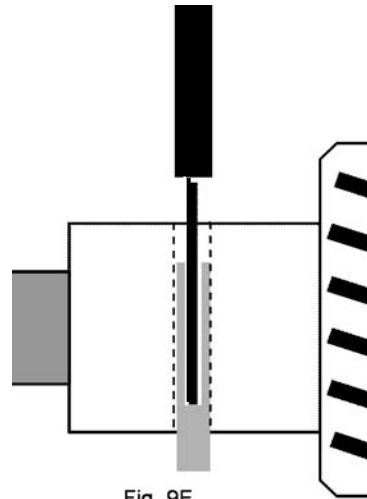

Fig. 9E
- G. Using a pin punch smaller than the drill bit, the remaining portion of the pin was driven out with a hammer. (Fig. 9E)